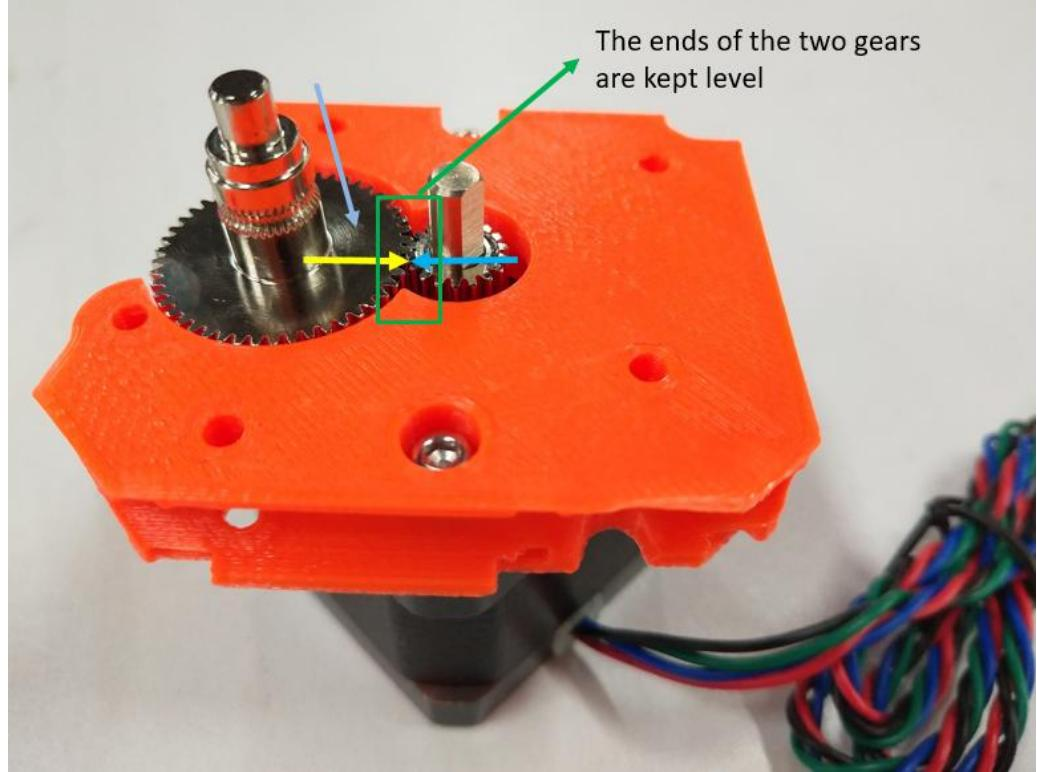

Figure 2.1.7
**Step 2-1-6:** Install the part of the short shaft end of the MINI extruded gear into the bearing installed on the MINI-extruder-front. Note that the end face of the MINI extruded gear must be flush with the end face of the drive gear on the motor shaft , as shown in Figure 2.1.7.